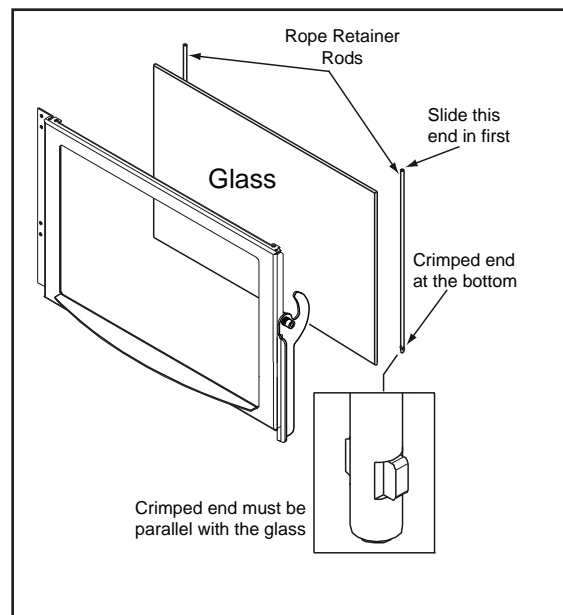

Figure 36.2
- d. Slide the retainer rod into the top hole first, and then line up the bottom crimped end with the hole in the door. The crimped end must be parallel with the glass in order to insert it into place. **Figure 36.2.**